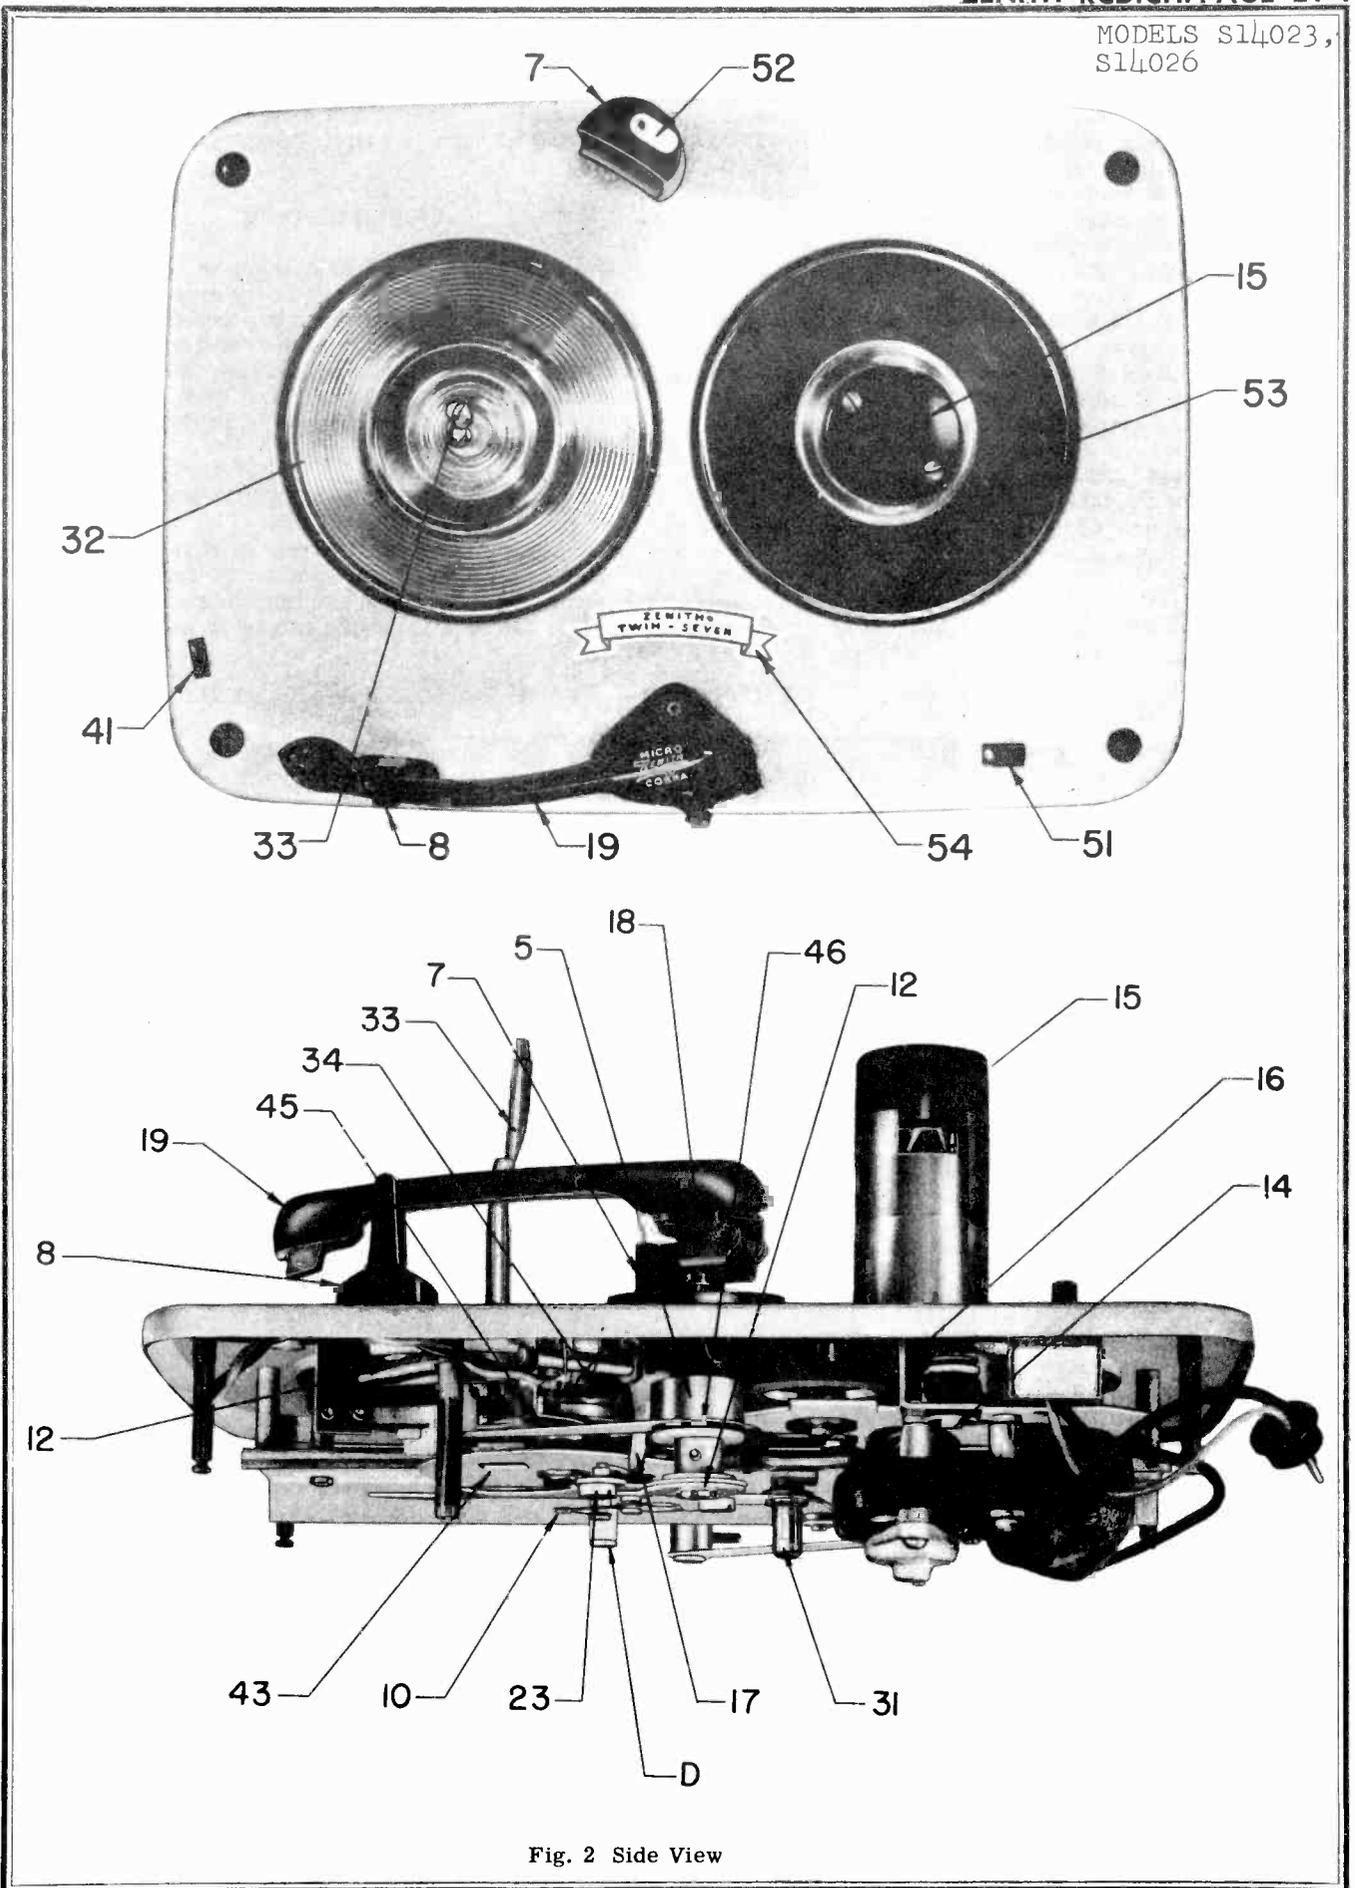
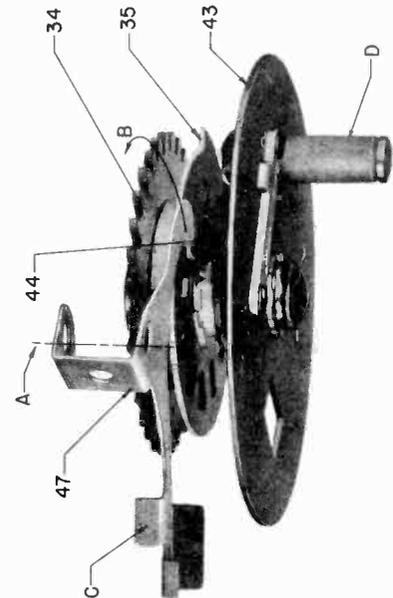
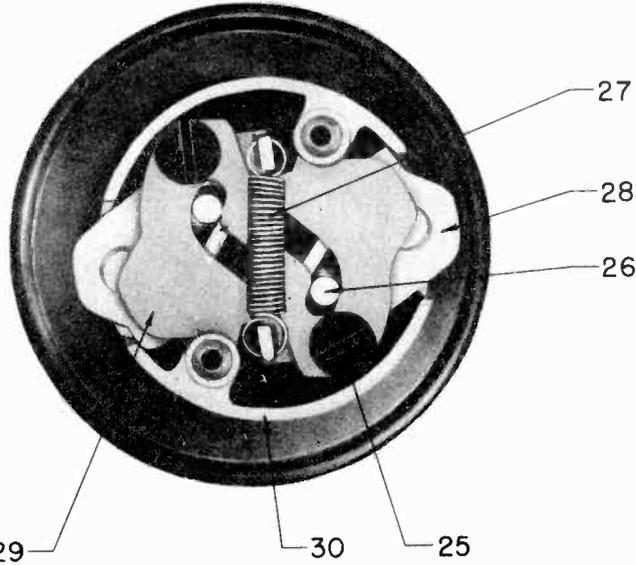

Fig. 2 Side View
Fig. 4 Clutch Assembly with Pawl (44) Disengaged
Fig. 8 45 RPM Spindle Assembly
weight (5) carries the trip actuator and stud assembly (45) in towards trip lever (47) (See Fig. 2). When the nylon stud on (45) contacts surface (C) on trip lever (47), the entire trip lever is rotated (direction B) around axis (A). This swings trip actuator in (direction B) and allows pawl (44) to rise and engage the upper clutch plate assembly (35). (See Figs. 4 & 5) The upper clutch plate assembly (35) is continually rotating and this places the changer in cycle.
When the clutch pawl (44) mechanically connects the upper clutch assembly to the lower clutch assembly, the entire clutch assembly rotates. As the lower clutch plate assembly (43) rotates, the nylon bushing (D) contacts the throwout cam and lever assembly (21) thus moving the tone arm from the record finish position to a position over the tone arm captivator. (See Figs. 2 & 3) As the lower clutch assembly continues to rotate, the nylon bushing (D) contacts the inside surface of throwout cam and lever assembly thus returning the tone arm to record start position. Simultaneously the bushing (D) on the lower clutch assembly (43) contacts the ejector cam assembly (31) and a new record is dropped on the turntable. This actuates the 33 1/3 RPM ejector cam and at the same time actuates the ejector mechanism on the 45 RPM spindle. The ejector shaft and plate assembly (26) in the 45 RPM spindle rotates (See Fig. 8) automatically inserting record separators (29) between the bottom record and the record stack and then retracts the record supports (28) from beneath the last record, dropping this record. The record ejector shaft (26) turns again placing the record supports (28) out under the record stack and the record separators (29) retract, thus lowering the record stack on the record support plates. At the same time the eccentric shaped lower clutch assembly (43) actuates the tone arm lift lever and pin assembly (17) thus raising and lowering the tone arm in the proper sequence.
The manual trip with the brass spring should be adjusted so there will be 1/8" clearance between the spring and surface (C) on trip lever (47). (See Fig. 4) There should also be .020 to .040 clearance between trip lever (47) and the top surface of the lower plate of the lower clutch assembly (43).